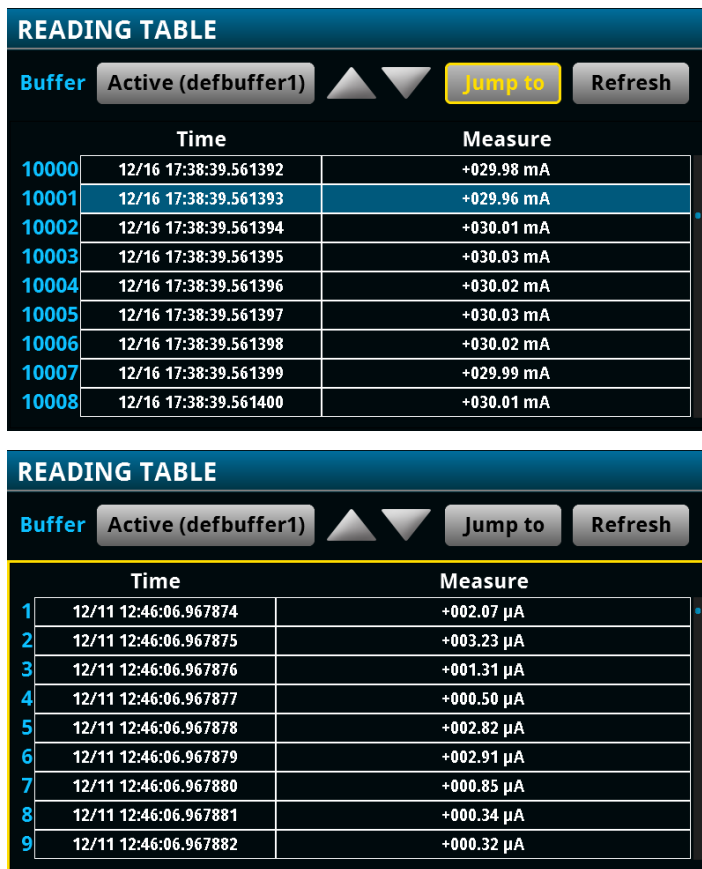

**Figure 3. Example of a multi-level idle mode current pulse profile (top). Power analysis using cursors (bottom).**
**Figure 3** is an example of a multi-level idle mode current pulse waveform captured on the 100 $\mu$ A range. The Model DMM7510 is capable of resolving current below a few microamps.